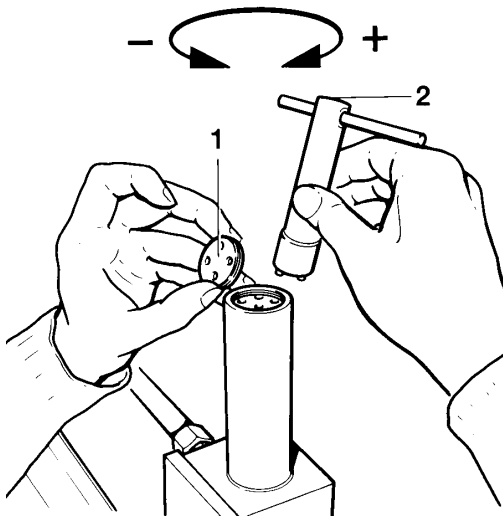

Fig. 72 Pressure maintaining valve, 90 bar units
The opening pressure is adjustable with key (2, Fig. 72).